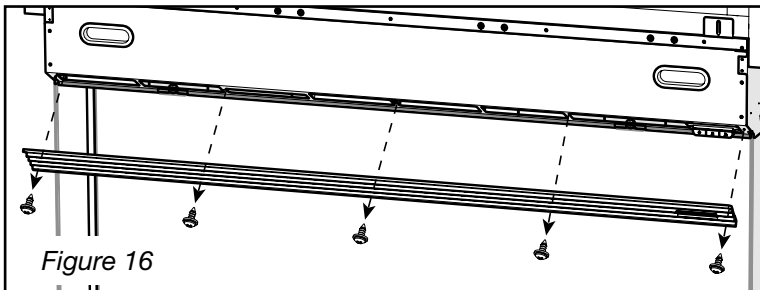

Figure 16
3. Remove the 5 screws that secure the top grill (ULT40 3 screws). (Figure 16)